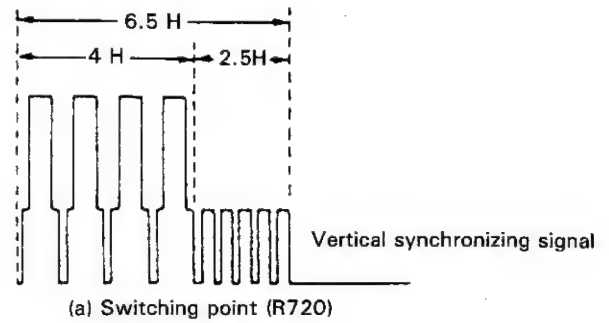

Figure 2-2.
2. Using the puls (-) trigger slope of the oscilloscope, adjust R720 (SW POINT) to provide a waveform of  $6.5 \pm 0.5 H$  as shown in Fig. 2-2.